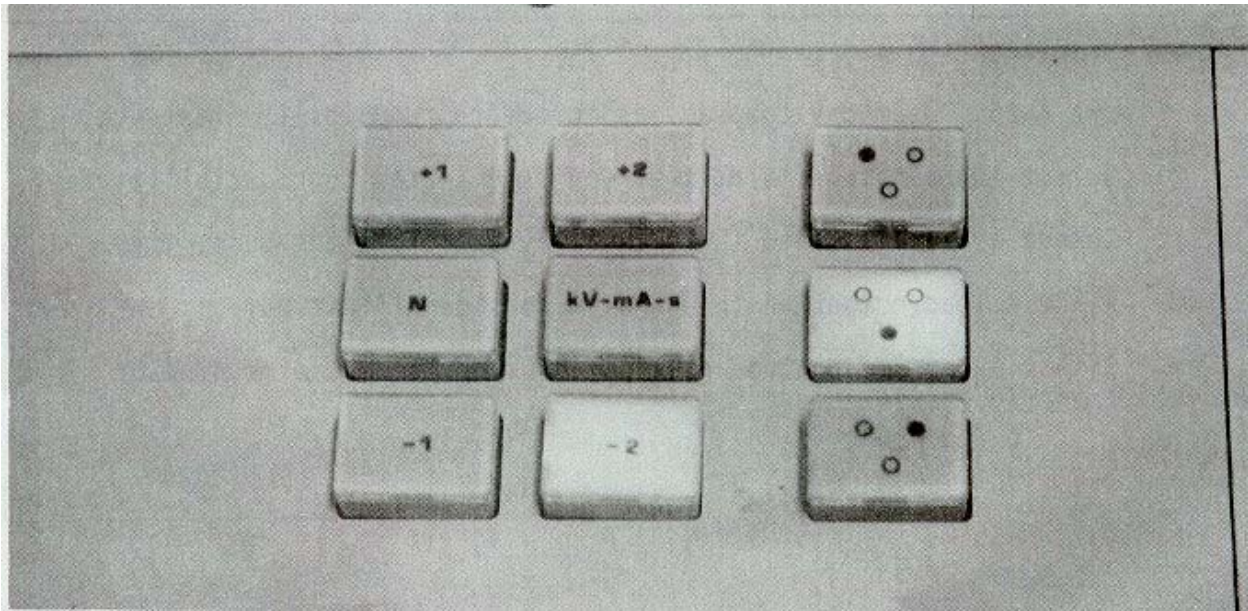

Figure 4-28. Density control station minus two (-2) being tested.
- g. Make the exposure (see figure 4-28).